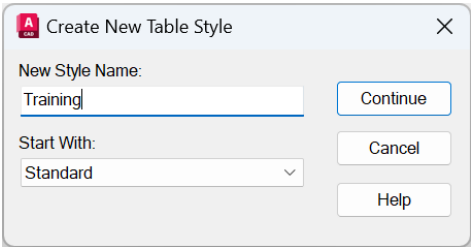

Figure 7.33: The Create New table Style dialog box
- 5. In the **Create New Table Style** dialog box, add a new table style name, Training. Set **Start With** to **Standard** (the default table style), as shown in *Figure 7.33*.